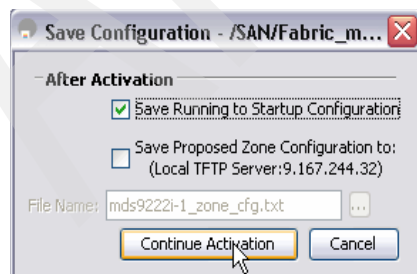

Figure 7-48 Activation of new zoneset
4. Click **Continue Activation** to continue and save the configuration, as shown in Figure 7-48.